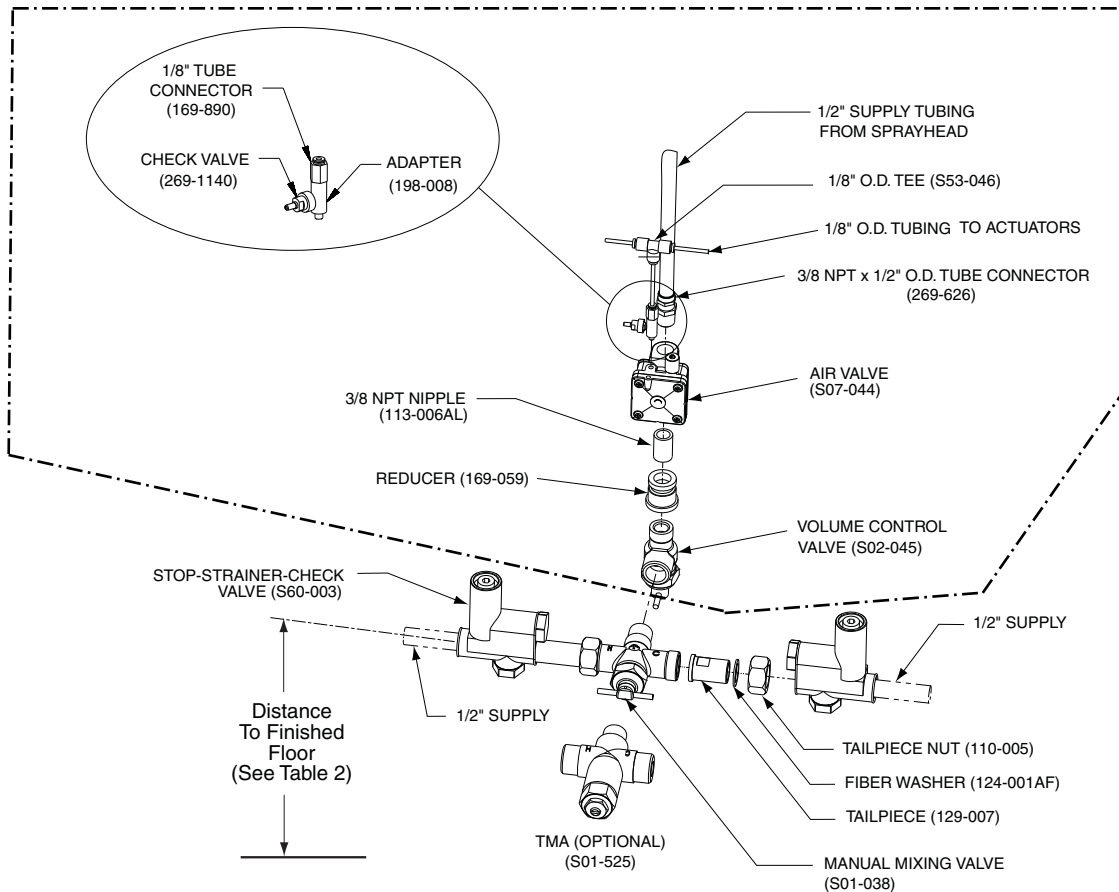

Figure 7
3. Using suitable fittings, install the complete valve assembly to the supplies as shown in Figure 7 at the approximate height indicated in Table 2.
5. Connect the 1/8" tubing from the actuators to the tee, then connect 1/8" tubing from the tube connector on the air valve to the tee (Figure 7).